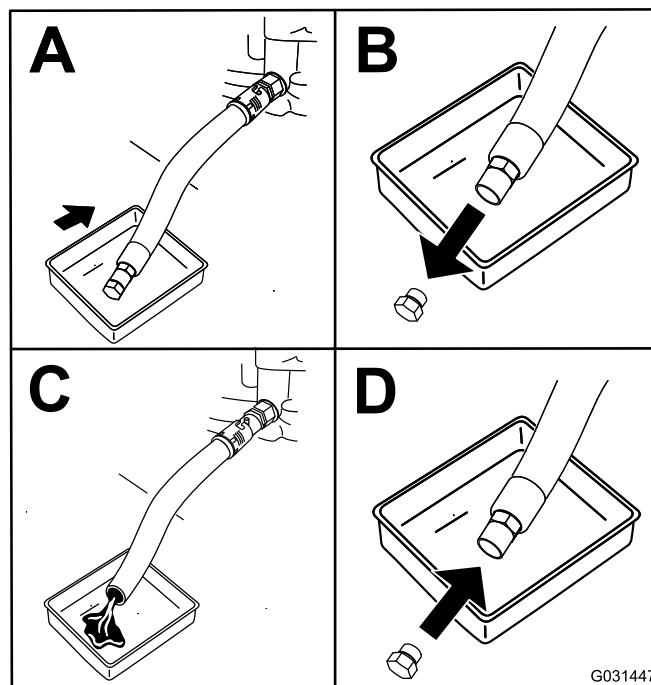

Figure 41
4. Change the engine oil as shown in Figure 41.